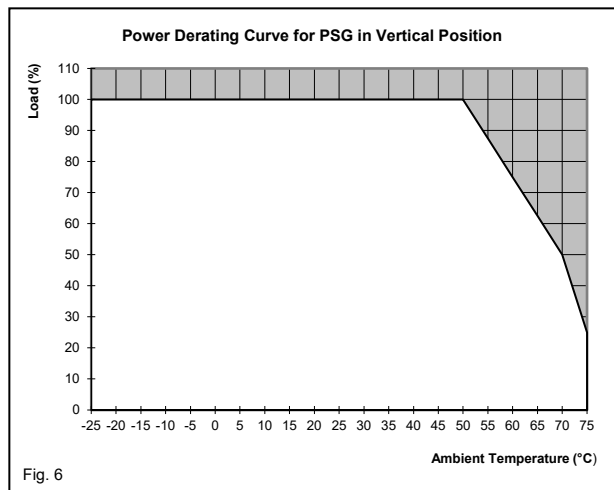

Fig. 6
5.4. Thermal behavior (Fig. 6)
Operating temperature (surrounding air temperature)	-25°C to +75°C (Refer to Fig. 6)